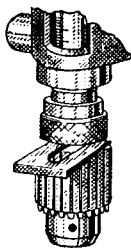

Fig. 2. Removing chuck from spindle.
5. TO REMOVE CHUCK FROM SPINDLE—insert the steel wedge between chuck and knurled collar, see Figure 2. Strike wedge a sharp blow with a hammer, catching chuck as it falls from the spindle.